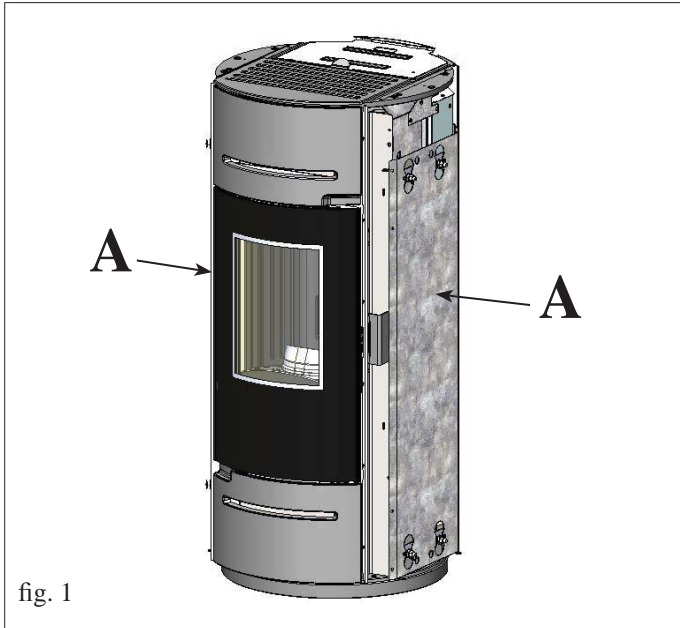

Fig. 1
The stove is delivered (fig. 1) with the metal sides (A) for fixing the glass sides already fitted.